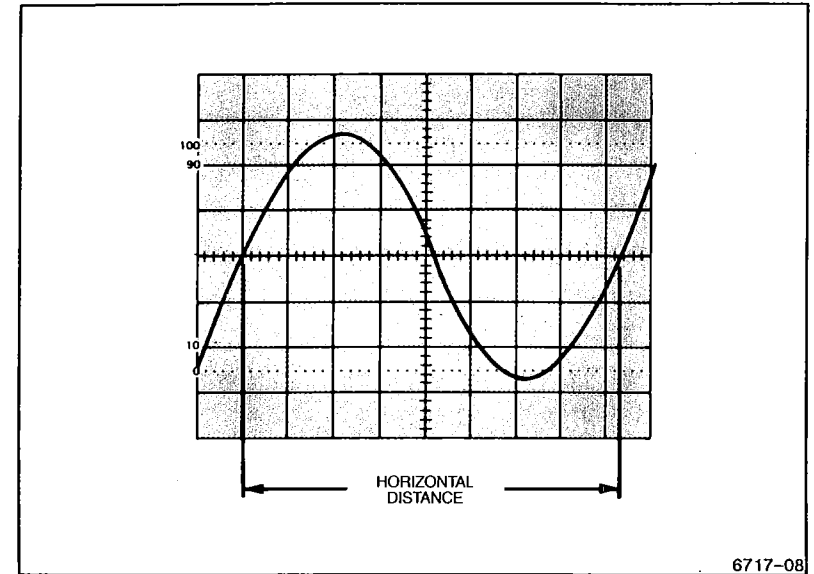

Figure 3-5. Measuring time duration.
4. Position the display to place the time-measurement points on the center horizontal graticule line (see Figure 3-5).
EXAMPLE. In Figure 3-5, the distance between the time measurement points is 8.3 divisions, and the SEC/DIV setting is 2 ms per division, HORIZONTAL MAG is set to X1.
EXAMPLE. The signal in Figure 3-5 has a period (T) of 16.6 ms. Calculating frequency (f):